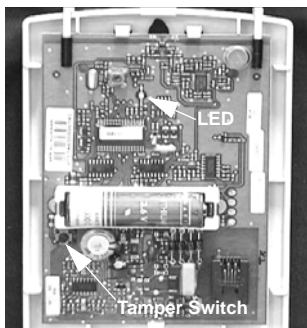

Figure 2. Tamper Switch and LED Locations
The DTIM uses a 3-2-1 tamper switch activation sequence for learning, which causes the LED to blink in a corresponding 3-2-1 sequence. You must wait for the LED to turn off after each flash sequence before releasing the tamper switch (see Figure 2).
4. Locate the DTIM tamper switch and LED (see Figure 2 at left).